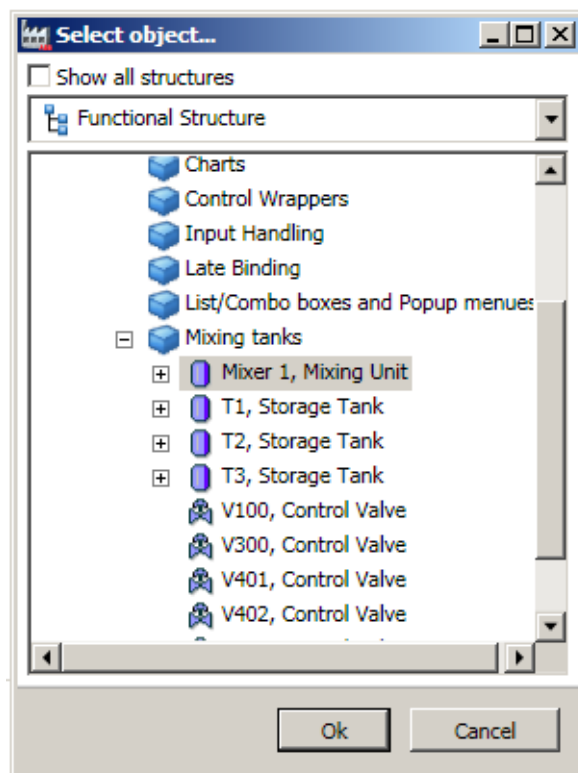

Figure 52. Group Manager - Select Object Dialog
4. In the Select object... dialog (refer to Figure 52), select the required structure from the drop-down list and select the object to which the alarm groups is to be configured and click **Ok**.